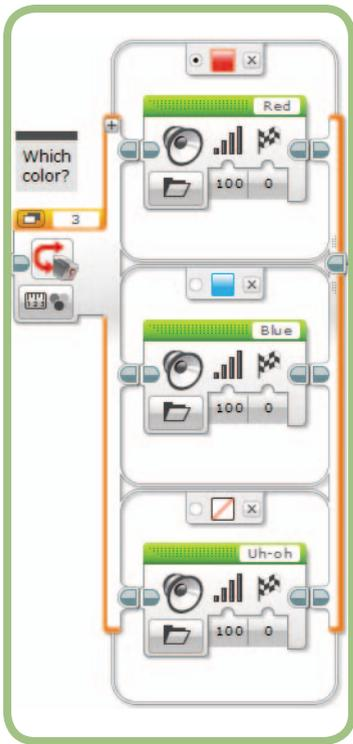

Figure 6-15: The No Color case
7. Click the **Sound File** box and select the *Uh-oh* file. You'll find it under the Expressions group. The program should now look like Figure 6-15.